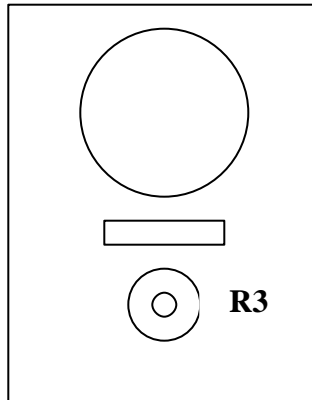

Figure 3: RF Ammeter PCB Layout and Trim Pot Location
1. Refer to *Figure 1* for the Test Setup and refer to the PCB layout in *Figure 3* for trim pot location.